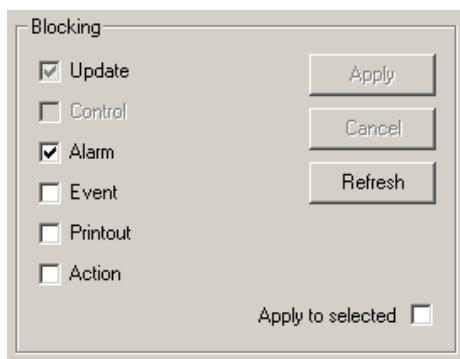

Figure 4.53: Example of condition on Blocking check boxes
- checked, respective measurements are blocked (**Alarm** in Figure 4.53).
- unchecked, respective measurements are not blocked, (**Event, Printout** and **Action** in Figure 4.53).
- grayed out, some but not all measurements are blocked (**Update** in Figure 4.53).
- disabled, blocking cannot be applied to the function in question (**Control** in Figure 4.53).